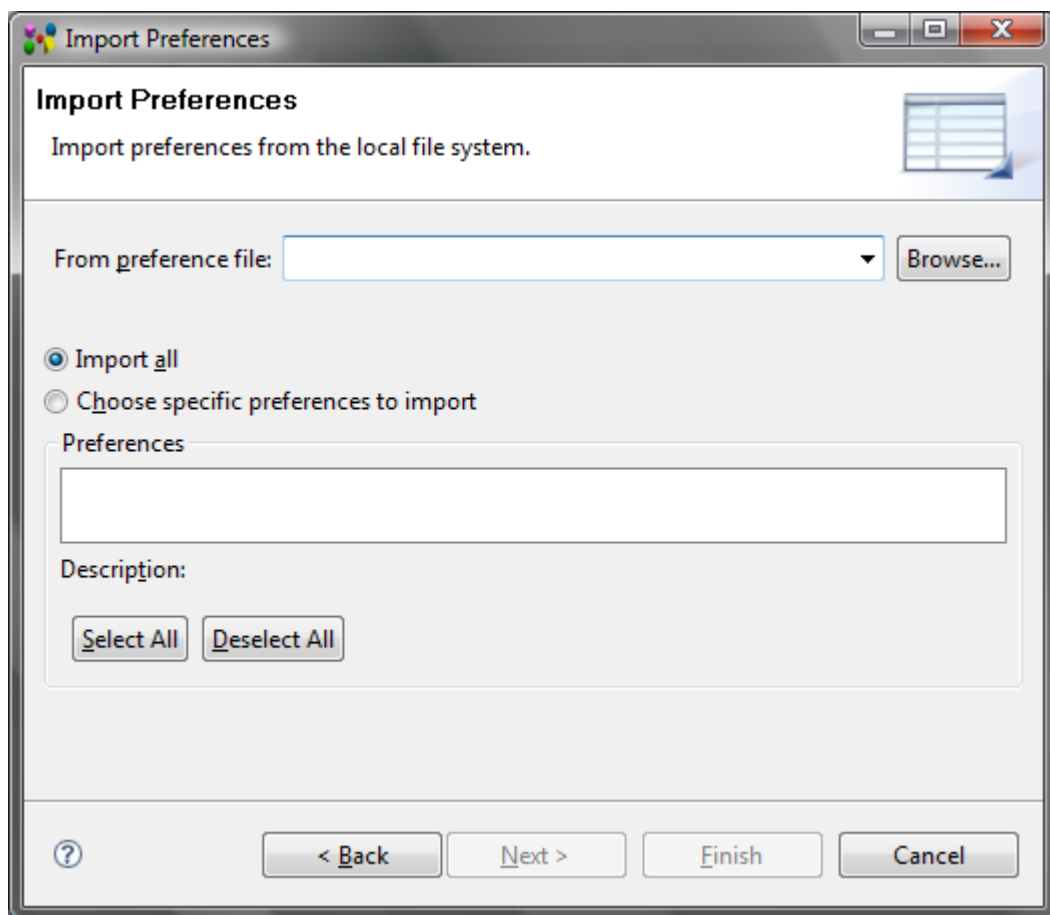

Figure 2. Import Preferences wizard page
- The **Import Preferences** wizard page appears on the screen (see Figure 2):